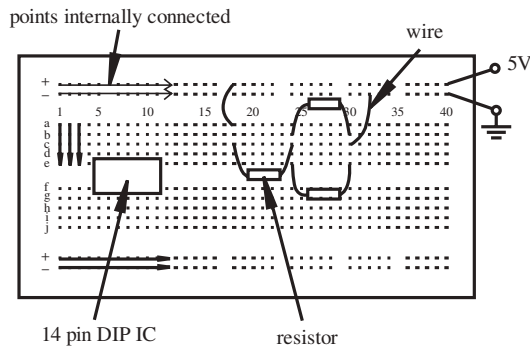

Figure 2.36 Breadboard.
A **breadboard** is a convenient device for prototyping circuits in a form that can be easily tested and modified. Figure 2.36 illustrates a typical breadboard layout consisting of a rectangular matrix of insertion points spaced 0.1 inches apart. As shown in the figure, each column a through e, and f through j, is internally connected, as illustrated by the arrows in the diagram. The + and – rows that lie along
- a. Verify that your breadboard circuit is constructed properly based on the circuit schematic or wiring diagram by checking each connection, making sure the breadboard is being used properly per Figure 2.36.